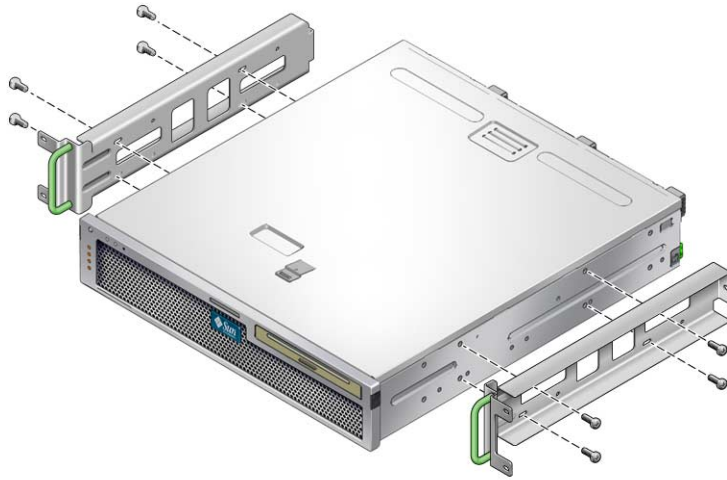

FIGURE 2-19 Securing the Side Rails to the Server
10. Using eight of the $M5 \times 7$ SEM screws (four for each side rail), secure the side rails to the sides of the server (FIGURE 2-19).